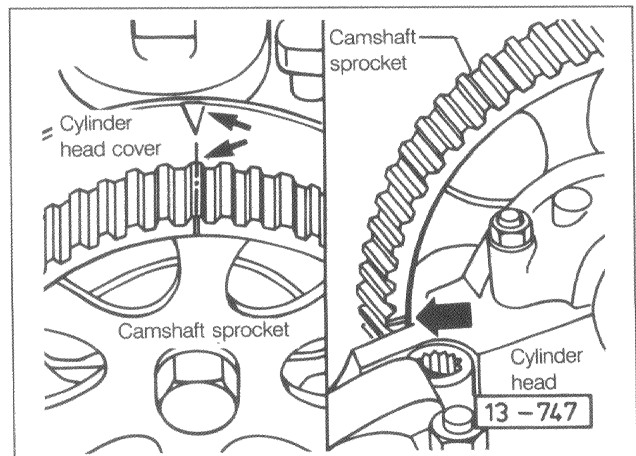

Fig. 4-2. Camshaft timing marks on PL (16-valve) engine with cylinder head cover on (left) and off (right).
1. Use a socket on the center bolt to rotate the camshaft sprocket by hand until the timing marks are aligned. The camshaft timing marks for PL (16-valve) engines are shown in Fig. 4-2. The camshaft timing marks for the 8-valve engines are shown in Fig. 4-3.